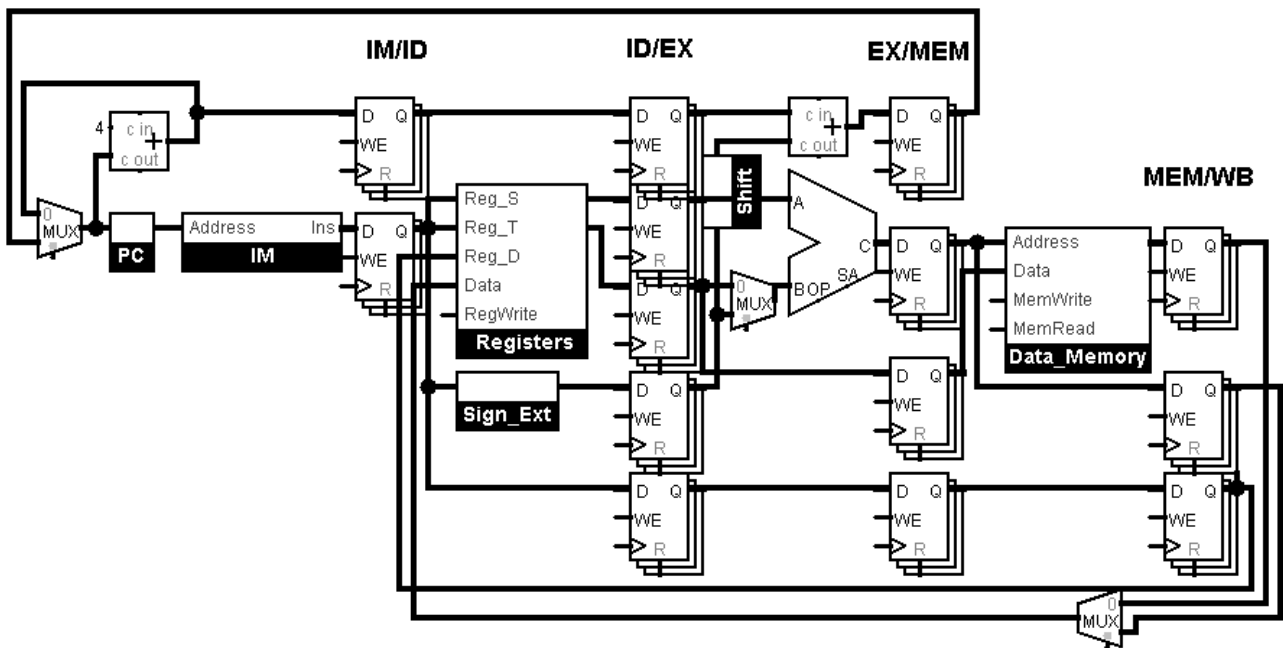

Figure 12: Register Latches in the Pipeline
- need registers ie. flip-flops to act as banks between stages as seen in Figure 12
- * as seen in Figure 12